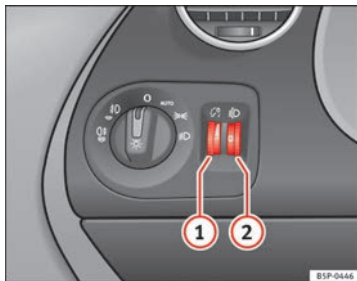

Fig. 73 Dash panel: regulation for instrument and switch illumination and headlight range control
When the headlights are switched on, the brightness of the instruments and switch lighting can be regulated to suit your requirements by turning the thumb wheel → fig. 73 ①.